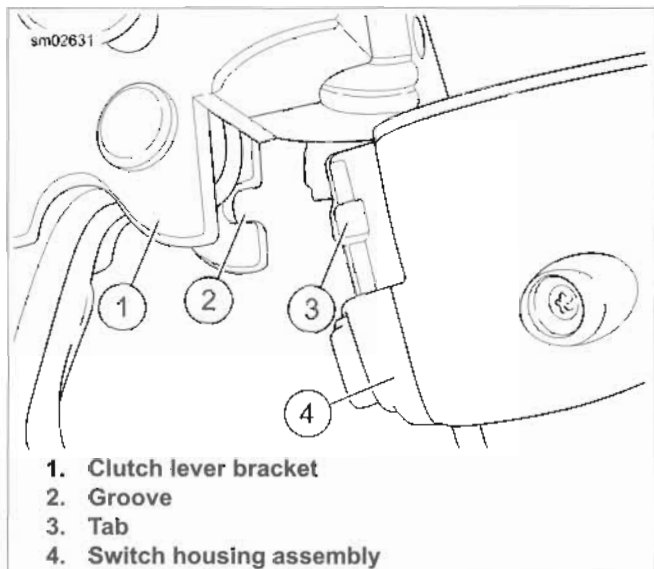

Figure 7-123. Clutch Lever Bracket
2. Install retainer (1) with screws (3). Tighten to 8-10 in-lbs (0.9-1.1 Nm).
5. See Figure 7-123. Position the clutch hand lever assembly inboard of the switch housing assembly, engaging the tab (3) on the lower switch housing in the groove (2) at the bottom of the clutch lever bracket.